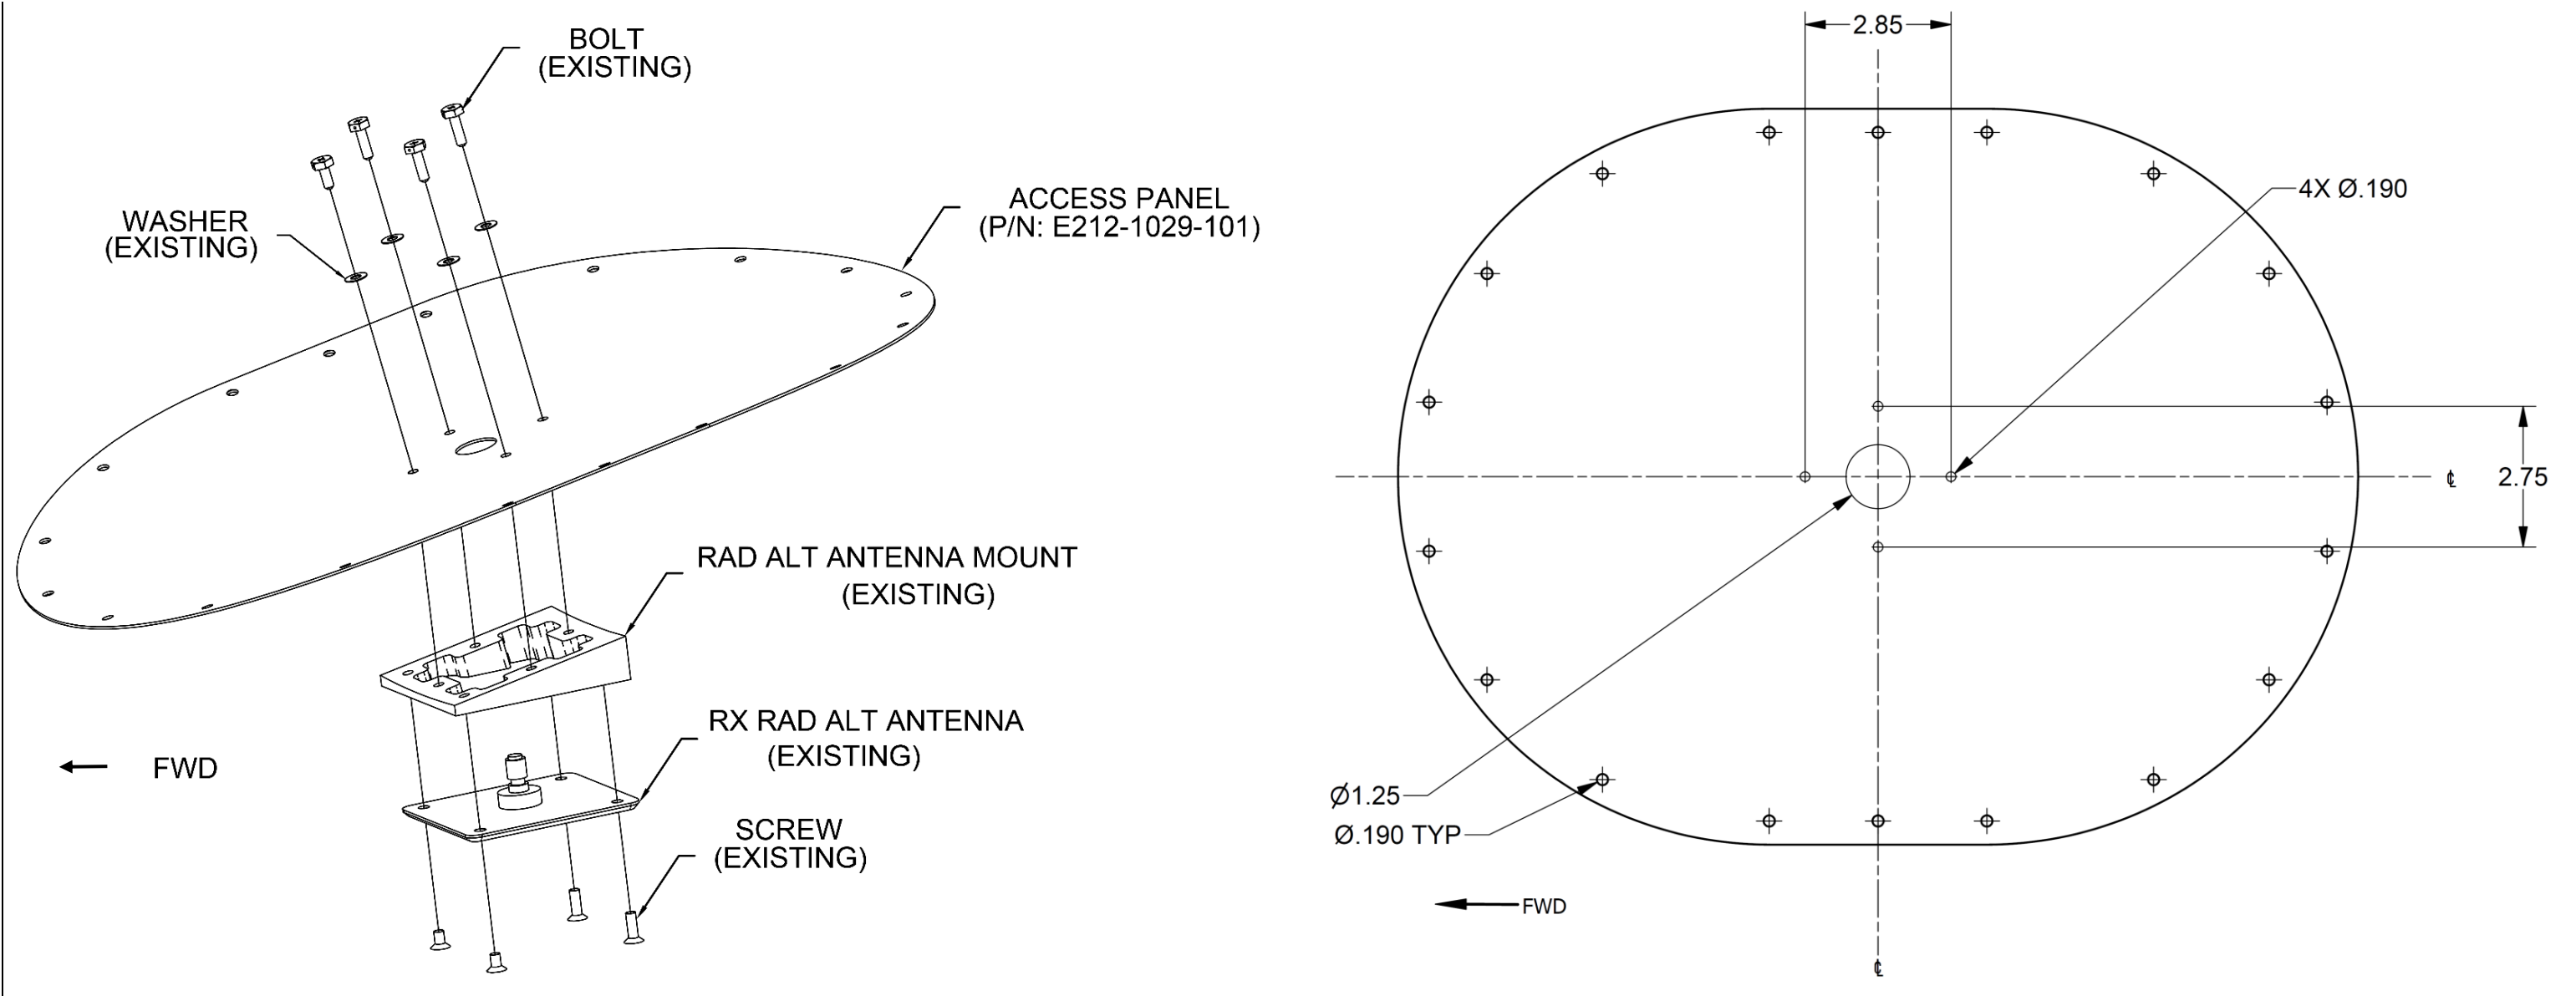

Figure 2 – Rx Radar Altimeter Antenna Installation
7. Prepare Access Panels (P/N: E212-1029-101 and E212-1029-103) by drilling antenna holes and perimeter holes as shown in Figure 2 and Figure 3. Perimeter hole locations shall be located to suit existing locations and to ensure 2D ED or greater.
11. Install the Rad Alt Antenna Mount (P/N: E206-02-15-041) and its associated parts that were retained as shown on Figure 2 and Figure 3.
13. Install the Radar Altimeter antennas (P/N: S67-2002) that were previously retained as shown on Figure 2 and Figure 3.
4. Install the Rx Radar Altimeter Access Panel on FS 355 using its retained screws in accordance with Bell Helicopter Maintenance Manual BHT-212-MM and as shown on Figure 2.